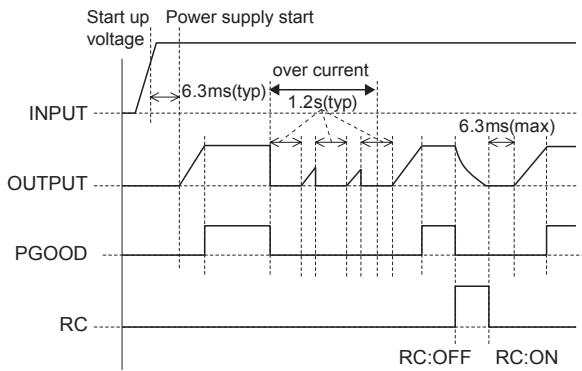

Fig.4.12 Sequence chart of BRFS/BRDS
■ Fig.4.12 is a sequence chart of each function of BRFS/BRDS.